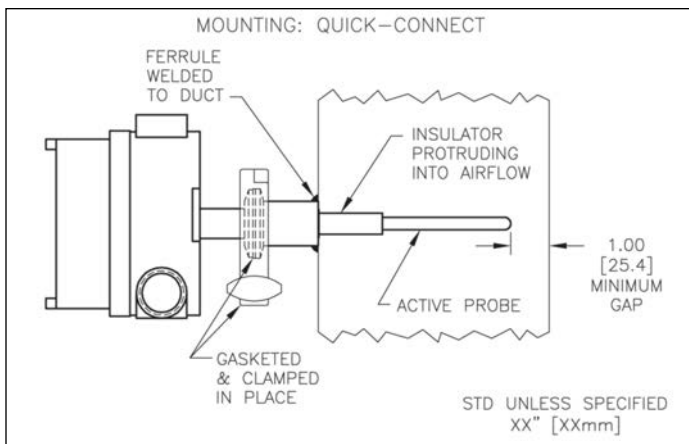

Figure 3
The **DustAlarm**® is furnished with a quick-disconnect ferrule, gasket and clamp for easy installation and maintenance of the probe. To mount the **DustAlarm**, disassemble the ferrule, gasket and clamp. Make sure the gasket is removed from the ferrule before it is welded to the duct. Weld the quick-disconnect ferrule to the duct or pipe at the chosen mounting point. When the **DustAlarm** is installed, the insulator should not be recessed from the inner wall but should protrude into the flow stream (See Figure 3).
- 2) Ensure that the probe’s insulator is not recessed (See Figure 3).